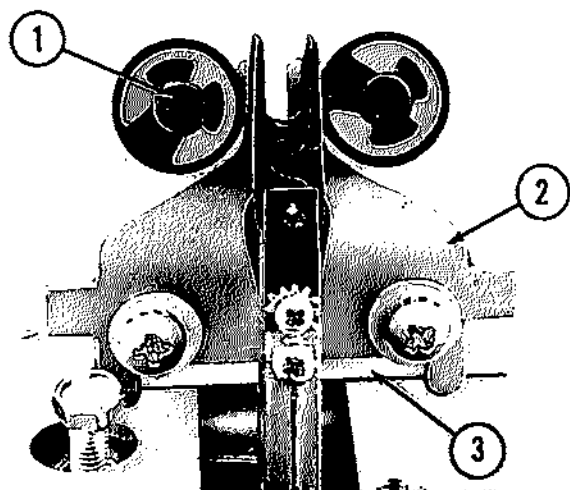

FIG. 36. BRACKET AND ROLLER GUIDE ASSEMBLY,
The two Bracket and Roller Assemblies, one of which is shown in Figure 36, Item 3, are the basis for the indexing procedure and are located on the chassis mounting plate by means of an assembly fixture, after which they are painted in line. The outline thus formed provides a reference for relocating the bracket should they be moved for any reason.
(1) The Roller Guides for the Record Lift Arm spring loaded guide tips are mounted on the Bracket and Roller Guide Assembly (Fig. 36). When the arms are down the Guide Tips are held straight in line and centered between the Guide Rollers by the adjustable slotted plate (Item 2).
(2) The Eccentric Stud (Item 1) should be adjusted to provide .003" to .006" clearance between the nylon rollers and the guide tips.